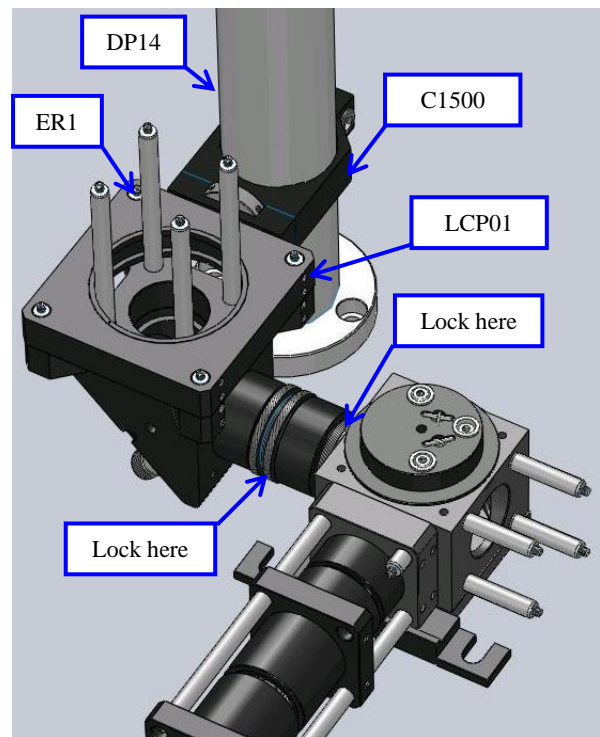

Figure 5.3.1: The vertical segment during alignment.
2. Stack the LCP01 on top of the LCP02 and connect them using four ER1 cage rods as in Figure 5.3.1 (you may remove the threaded studs from both ends of the cage rods).
3. Connect the SM1T2 to the SM1V05 from Step 24 in section 5.2. The SM1V05 will unthread from the C6W as it threads onto the SM1T2. Lock it in place using the locking ring on the SM1V05 to the C6W. Also lock the SM1T2 to the SM1V05 using the other locking ring on the SM1T2. The resulting arrangement is shown in Figure 5.3.1.
9. Attach an additional SM1D12D iris to the upper LCP02 as shown in Figure 5.3.1.